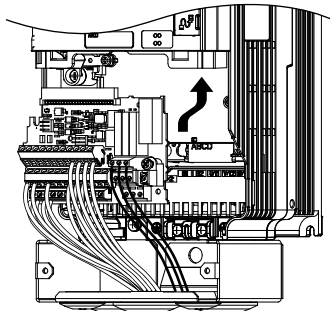

Figure 6.6 Install the Terminal Board
1. After wiring the main circuit, connect the terminal block to the drive as shown in Figure 6.6. Use the installation screw to fasten the terminal block into place.